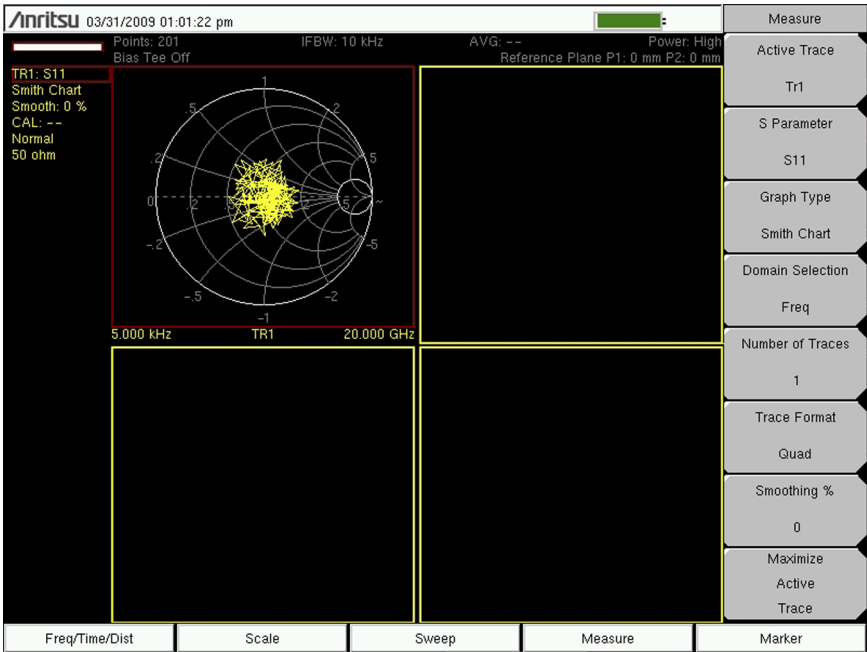

Figure 2-5. Format = Quad, Traces = 1
5. Now return to the default display of Trace Format = Quad. Change the Number of Traces from 4 to 1. Note how the top left quadrant is filled, while the other three quadrants have no data. Refer to Figure 2-5 on page 2-6.